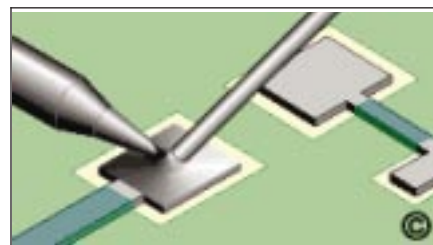

Figure 1
6. Prefill one land with solder. (See Figure 1.)